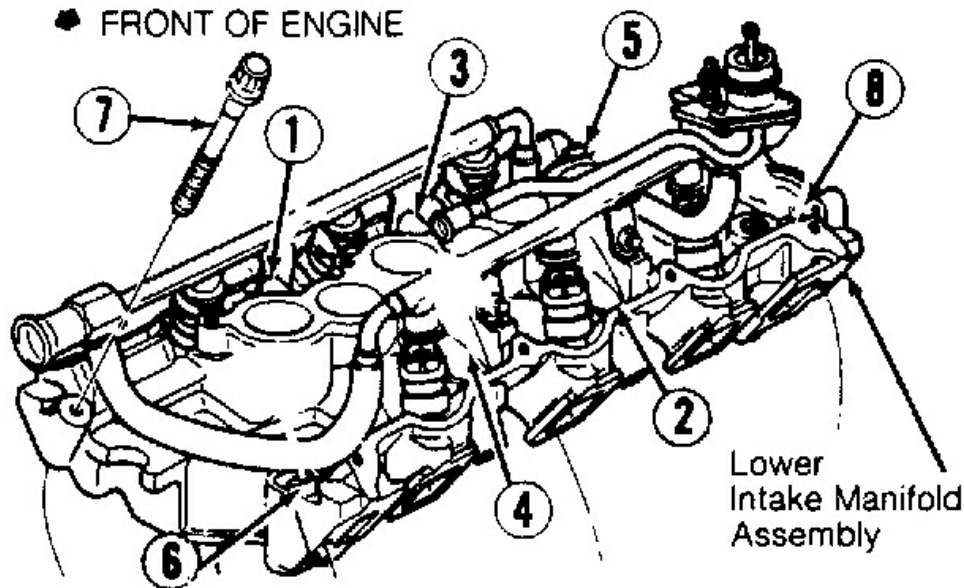

Fig. 4: Lower Intake Manifold Bolt Tightening Sequence
4. Install lower intake manifold and retaining bolts. Tighten bolts to specification in sequence. See **Fig. 4** . See, at the end of this article, **TORQUE SPECIFICATIONS** . To complete installation, reverse removal